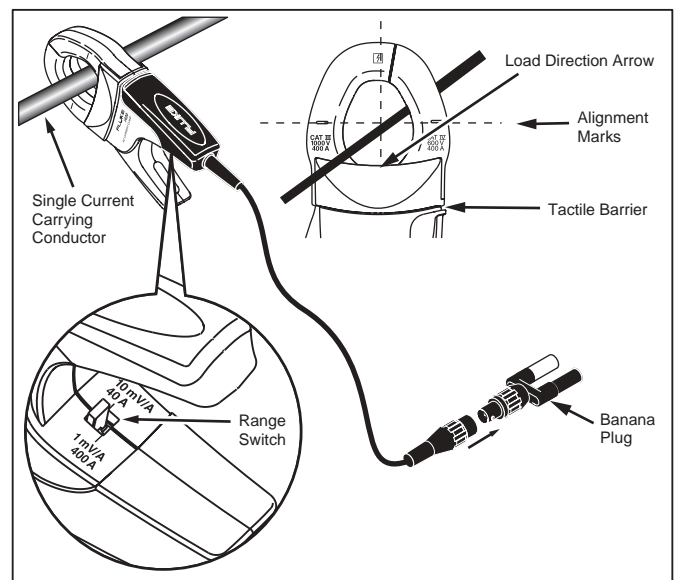

Figure 1. i400s Setup
- Do not hold the Current Clamp anywhere beyond the tactile barrier, see Figure 1.
To use the i400s, refer to “Measurement Considerations” and Figure 1:
To avoid shock or personal injury, keep fingers behind the tactile barrier, see Figure 1.